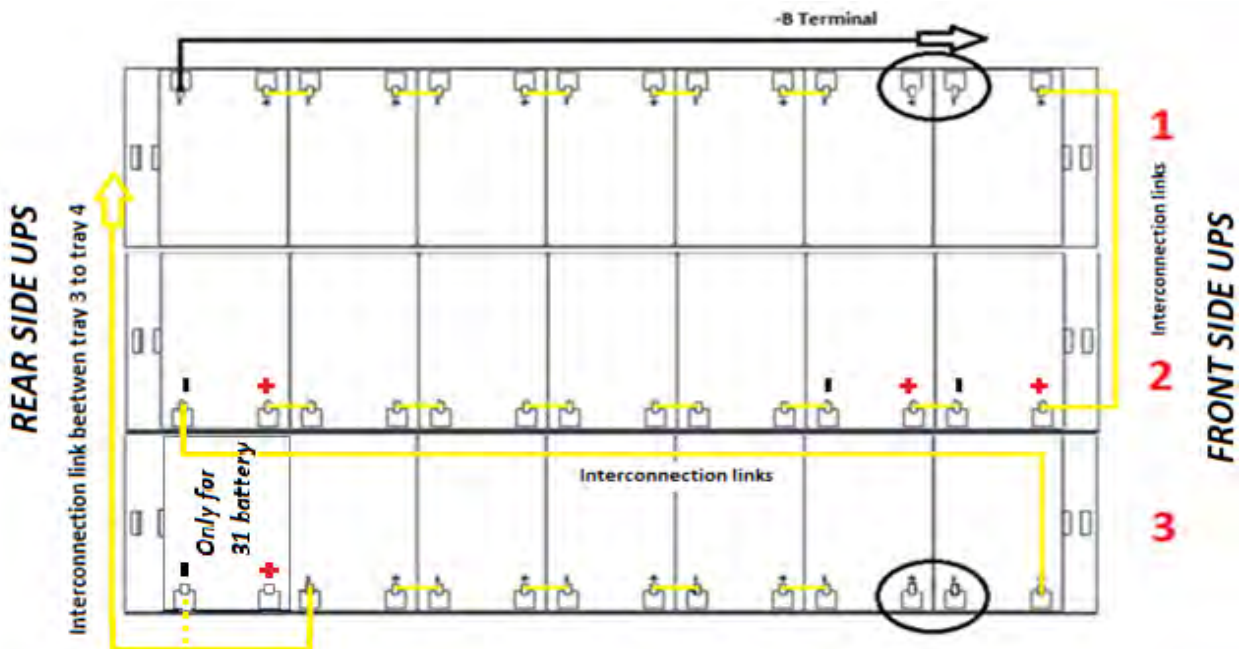

Figure 32 - View from above Level No. 1 with battery connections
6) Wire level no. 1 as indicated in Figure 32. **Leave the circled jumpers disconnected.**